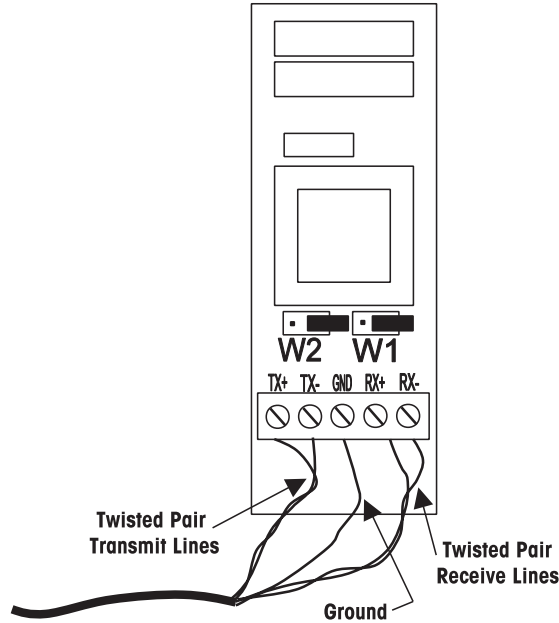

Figure 3-9. RS422/485 Typical 4-Wire Duplex Connection.
3. Connect the interface cable to the computer and the other end of the cable as shown in Figures 3-9 or 3-10.